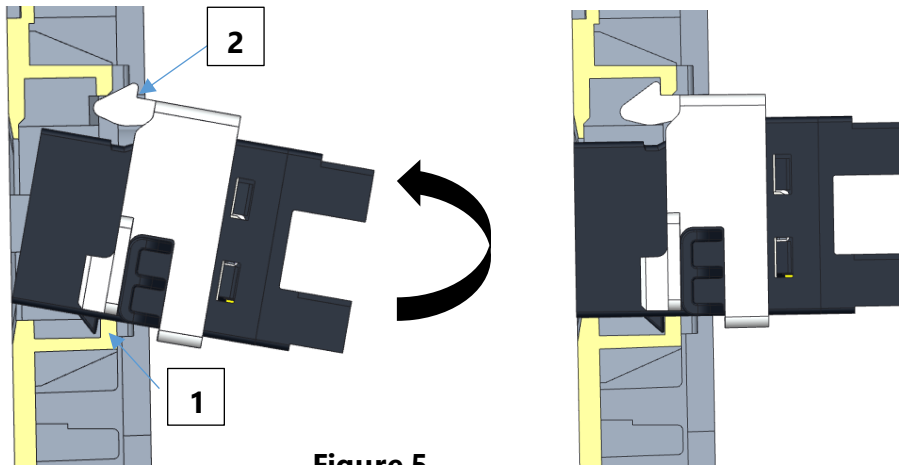

Figure 5
**Step 3**: pivot the modular jack or insert forward until the Deflecting Latch [2] engages the off-set rail of the port and snaps into place. Refer to Figure 5.